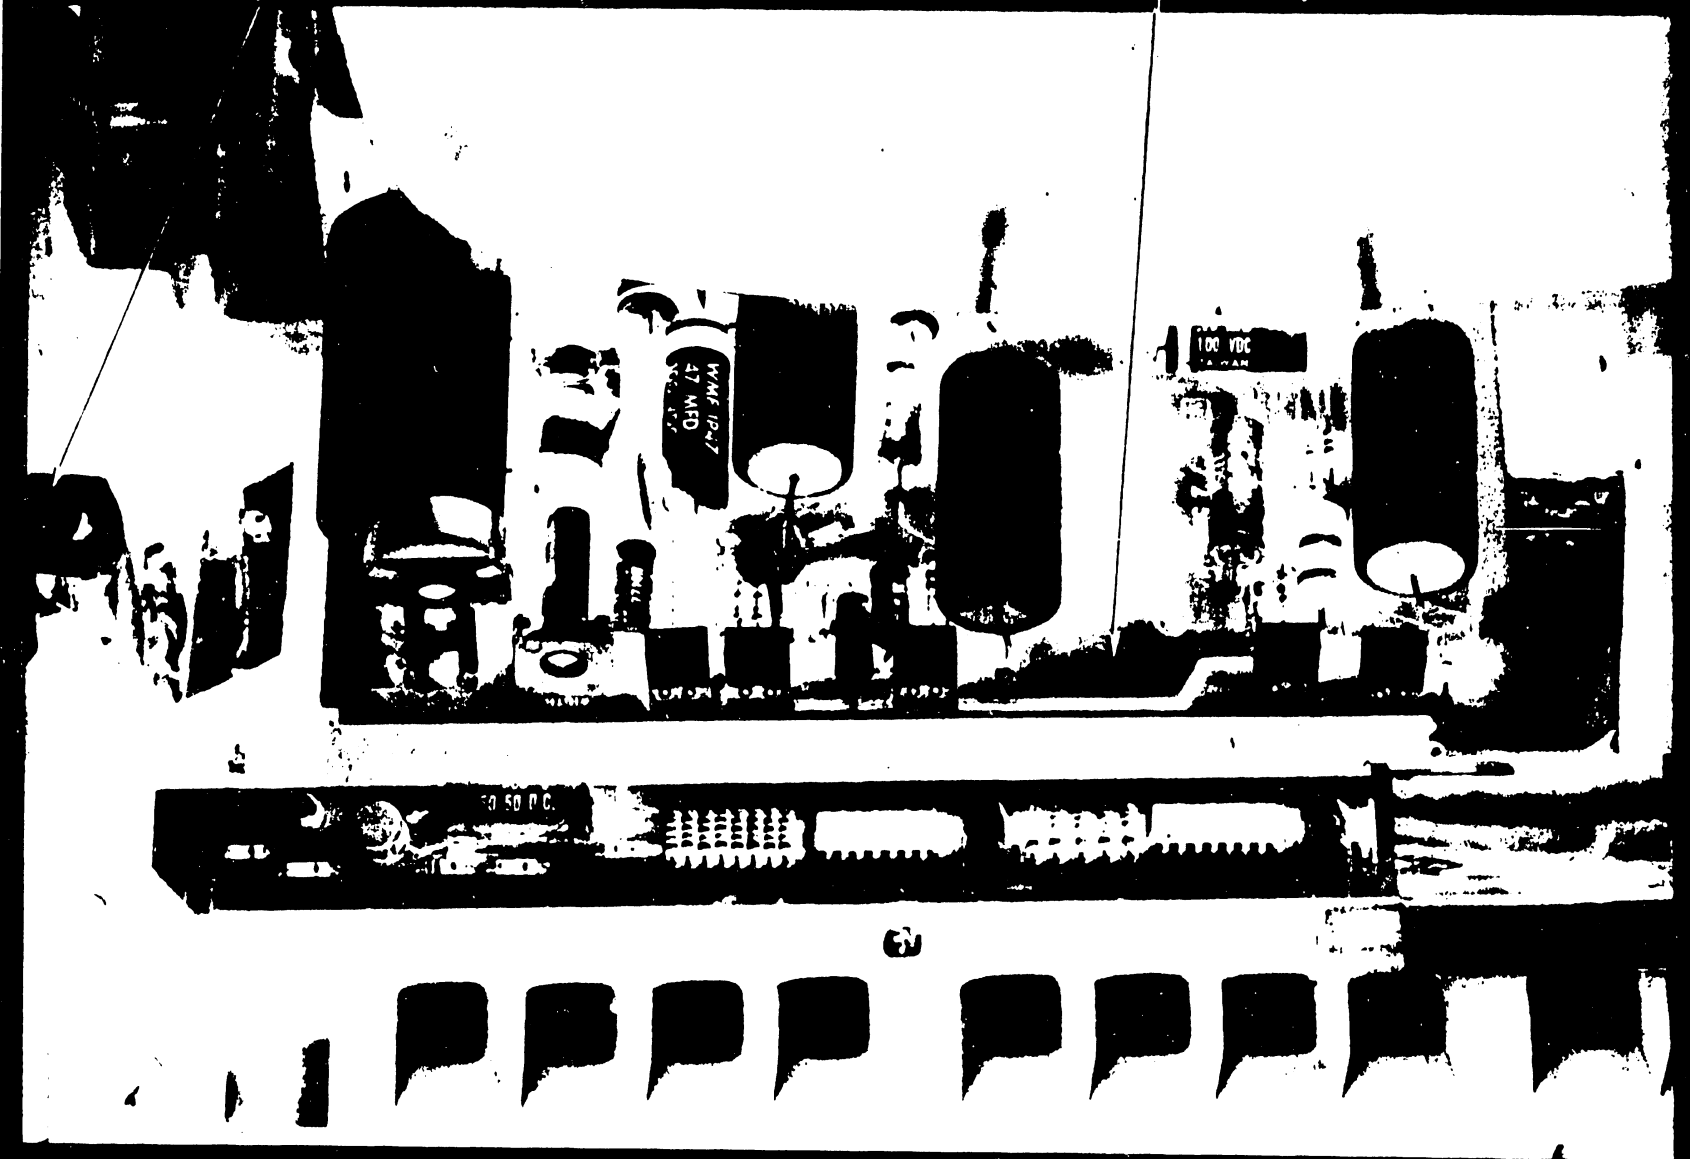

FIGURE 3-7 KEYBOARD REMOVED FOR ACCESS TO ELECTRONICS BOARD 7256
Once the keyboard is removed, it is a simple matter to extract the 7256 board by pulling and sliding it out toward the front of the station. In addition, the screwdriver alignment control potentiometers (5) for the monitor electronics are more accessible with the keyboard out of the way. (See figure 3-7.)